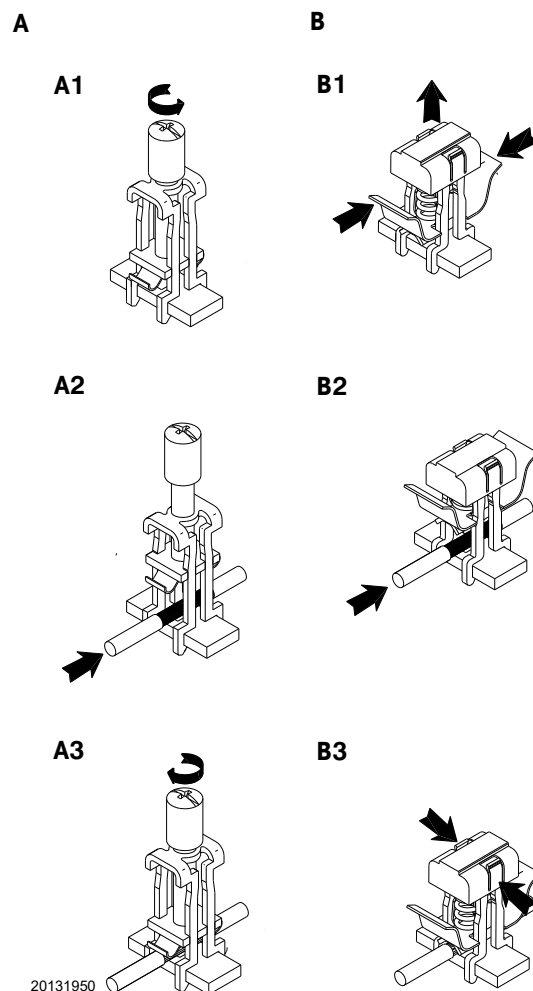

Fig. 26
- unscrew the screw until space is created for inserting the shielding of the shielded cable A1)(Fig. 26);
- pull the indicated tabs upwards and lift until locked in the open position B1)(Fig. 26);